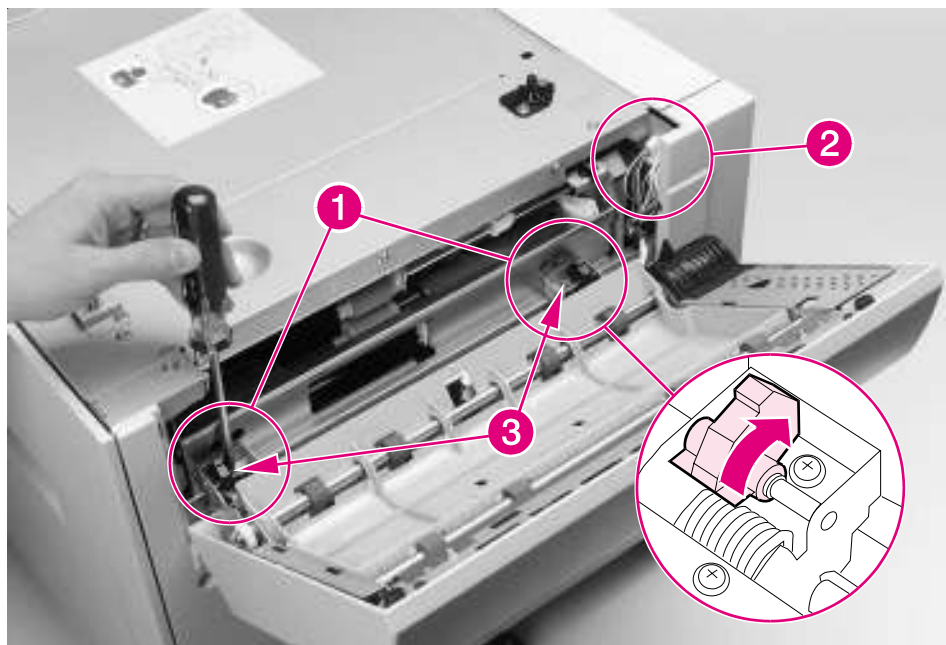

Figure 6-78 2000-sheet Input Tray Vertical Transfer Unit (VTU)
- 1 Remove the Vertical Transfer Unit (VTU) from the 2000-sheet Input Tray (see figure 6-78).
- 2 Rotate the 2 plastic cams on the VTU hinges toward the 2000-sheet Input Tray to the secure position (Figure 6-78, callout 1).
- 3 Locate the 2 cables that run from the VTU to the chassis at the right side's upper-back corner (Figure 6-78, callout 2) and disconnect the 2 cables from the chassis.
- 4 Remove the 2 screws that secure the VTU to the chassis: 1 screw near each end of the VTU (Figure 6-78, callout 3).